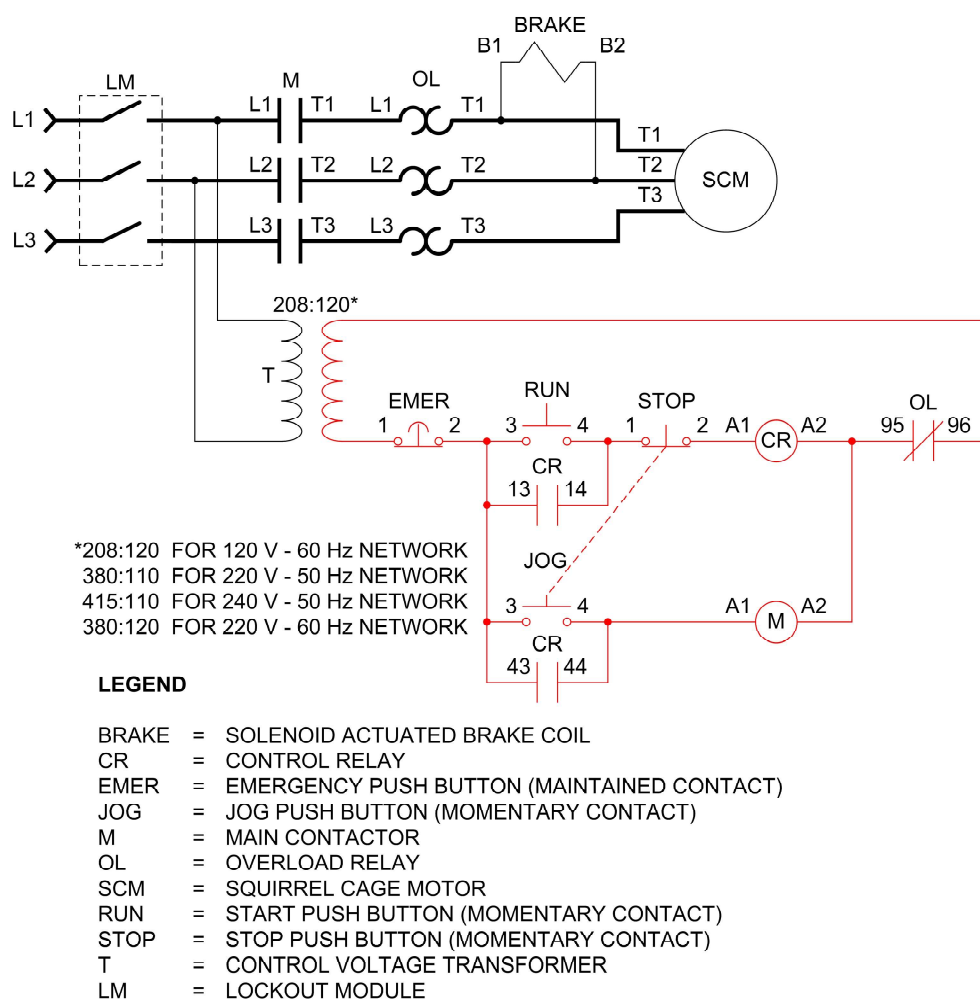
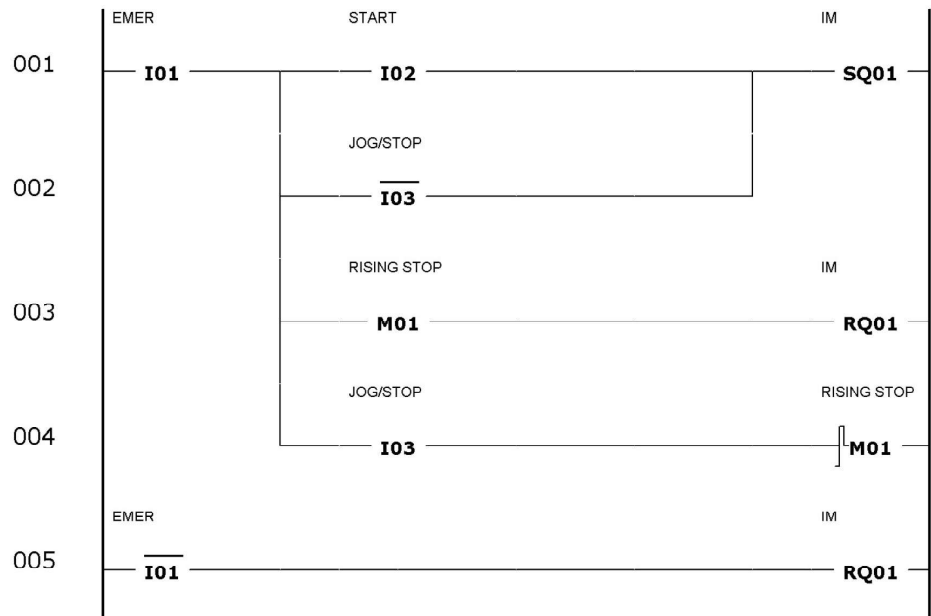

Figure 2-7. Jogging circuit with control relay.
Figure 2-10. Jog/Run with independent push buttons ladder program.
- A circuit where push buttons and a control relay are used to control the run and jog functions independently (see Figure 2-7).
- ☐ 15. Enter the program shown in Figure 2-10.
4. In the Figure 2-10 ladder program, which programming unit is the logical equivalent of the Control Relay in Figure 2-7?